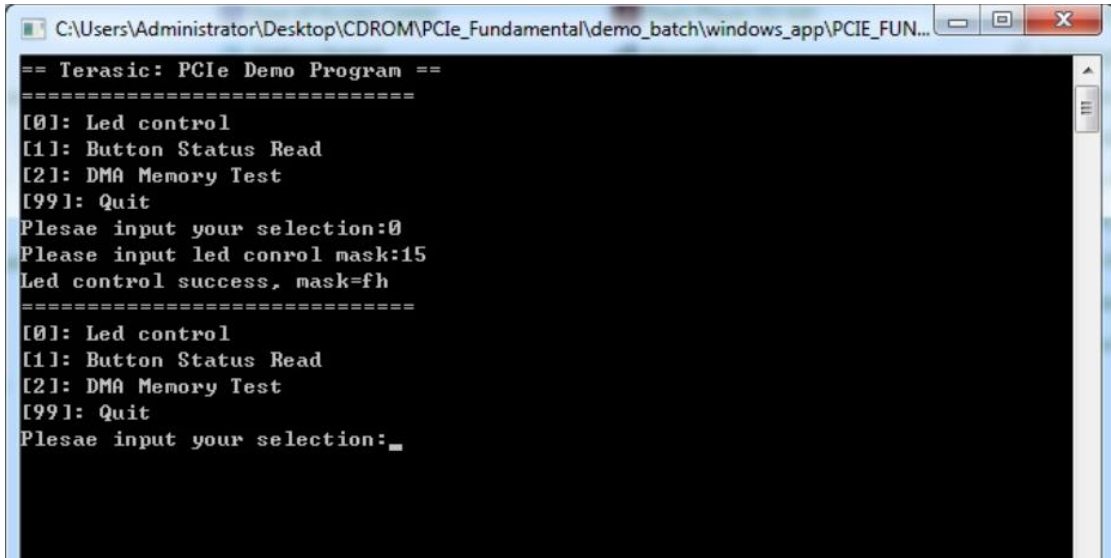

Figure 0-12 Screenshot of LED Control
8. Type 0 followed by a ENTER key to select Led Control item, then input 15 (hex 0x0f) will make all Leds on as shown in **Figure 0-12**. If input 0(hex 0x00), all Leds will be turned off.